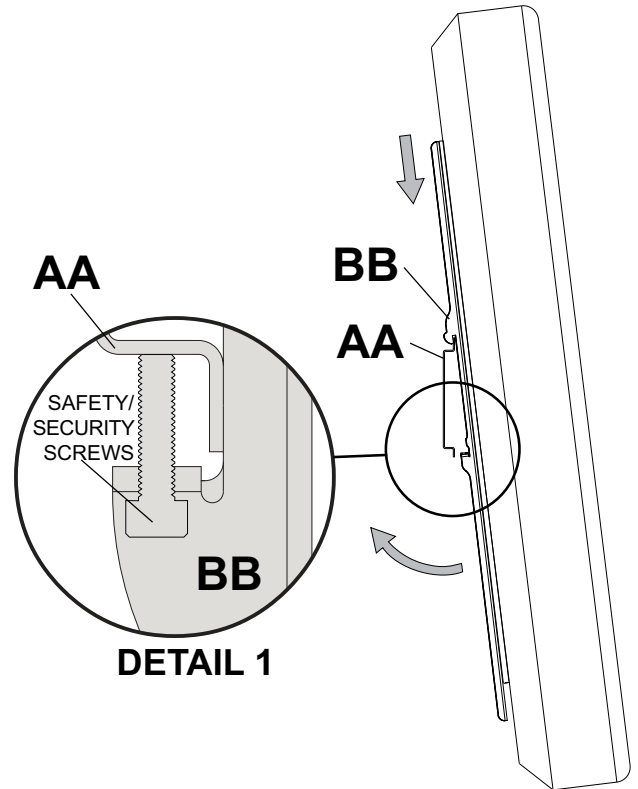

fig. 3.1
- 3** Hook adapter brackets (**BB**) onto wall plate (**AA**). Then slowly swing screen in as shown. Turn safety/security screws, using security allen wrench (**EE**), clockwise at least six times to prevent screen from being removed as shown in detail 1 of figure 3.1. Screen can be adjusted horizontally if desired as shown in figure 3.2.